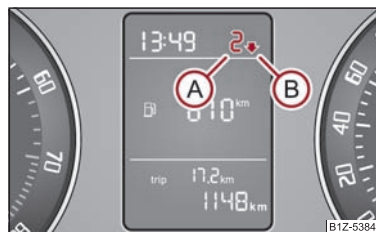

Fig. 17 Shift recommendation for changing gears
An information for the engaged gear (A) ⇒ fig. 17 is shown in the display of the instrument cluster.